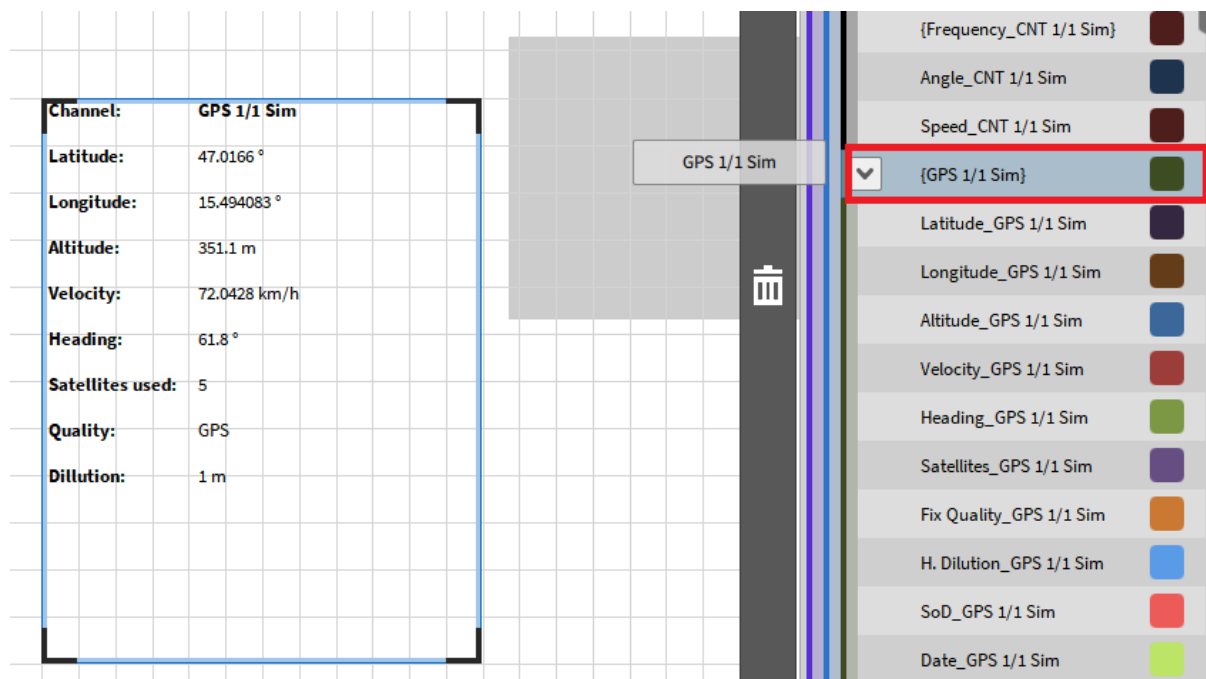

Fig. 7.219: Drag and drop the GPS channel to the measurement screen
*The channel *GPS* can be dragged and dropped directly from the Channel List to the measurement screen. If this is performed, the current value of the channels *Latitude*, *Longitude*, *Altitude*, *Velocity*, *Heading*, *Satellites used*, *Quality* and *Dilution* will be displayed (see Fig. 7.219).